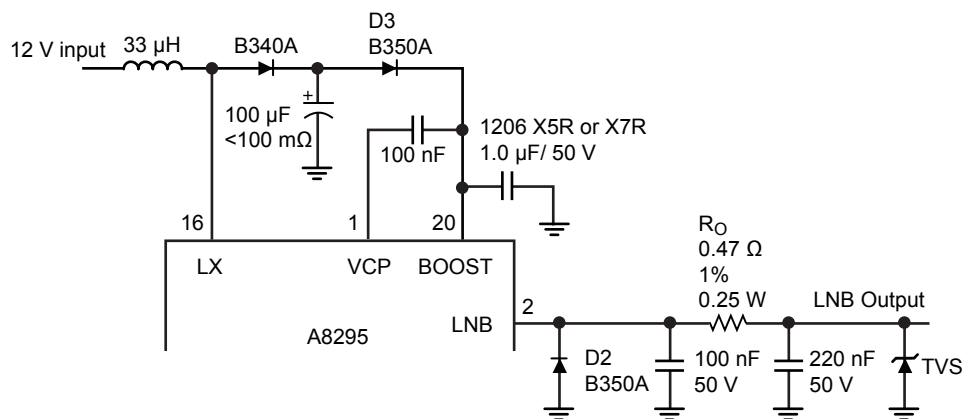

Figure 7. Application of surge protection upgrades
- For increased positive surge, the shunting diode from the LNB pin to the BOOST pin (D3, 1 A / 40 V) will no longer be able to protect the body diode of the output stage. This diode must be increased to a 3 A/50 V device and be relocated so that it is in series with the BOOST pin as shown in figure 7. In this position D3 will block surge current to the 100 μF electrolytic capacitor, but the 1 μF ceramic capacitor will still filter the high frequency switching noise.
- For increased negative surge, the relatively small clamping diode (D2) from LNB to ground will no longer be sufficient. This diode must be increased from a 1 A/40 V, SOD123 to a 3 A/50 V, SMA device. Also a 0.47 Ω /1%/0.25 W series resistor must be added as shown in figure 7. The 0.47 Ω resistor could be reduced if there is enough equivalent resistance in any series output components such as jumpers, inductors, or PCB traces. Every application will have its own surge requirements and the surge solution can be changed. However, Allegro strongly recommends incorporating a form of surge protection to prevent any pin of the A8295 from exceeding its Absolute Maximum voltage ratings shown in this datasheet.